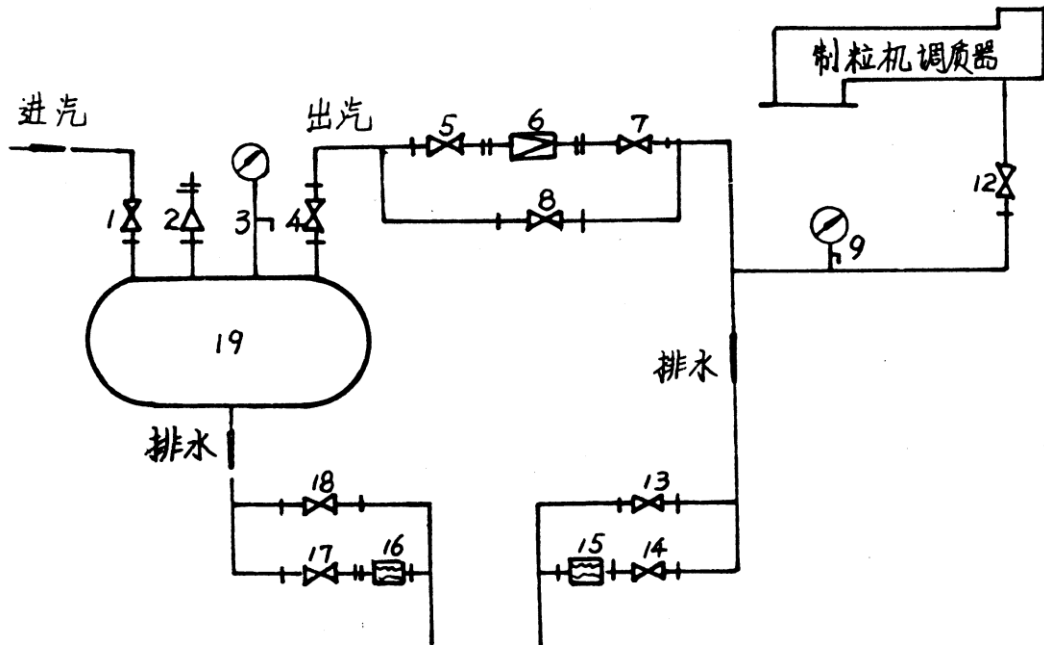

Fig.11 Steam pipeline process flow
4.1.5 Steam should be injected in when the machine is working. See Figure 11 and Table 2 for the steam piping system. The steam is generated by the boiler. Galvanized pipe can be used as the steam pipe connecting with the conditioner. Moisture separator should be installed in the steam piping line to prevent the